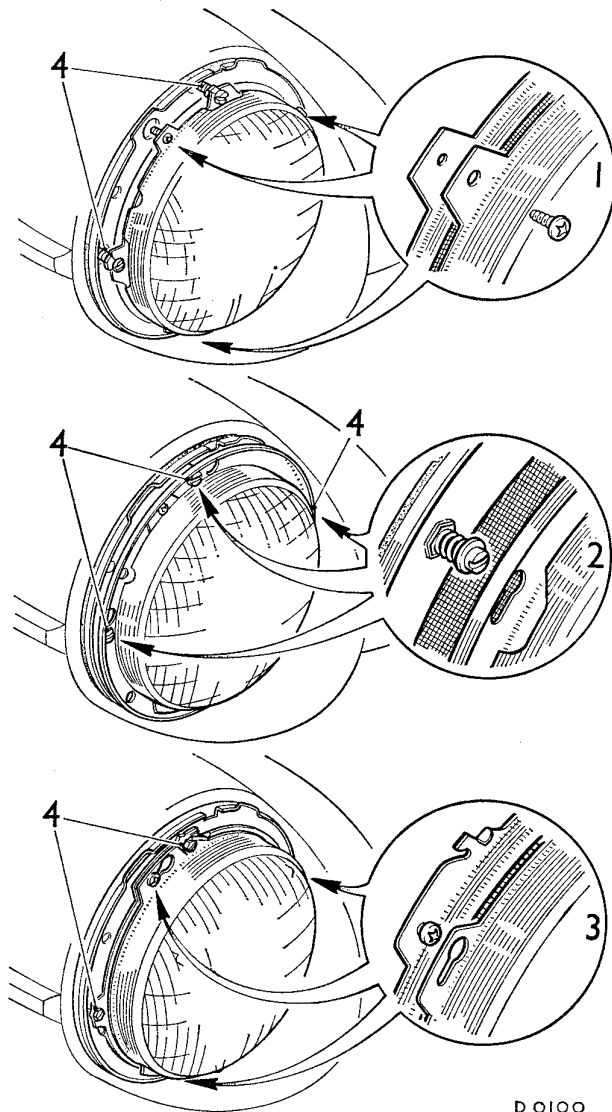

Fig. N.15
Variations within the two basic types cater for the local lighting regulations existing in the country for which the car was produced. The method of retaining and adjusting the light unit together with the type of lens and bulb used are subject to territorial variation. Fig. N.15 shows the alternative methods of retaining and adjusting the light unit and Fig. N.16 the different types of bulb fittings used.
##### Removable-type retaining screw (1) Fig. N.15
- (1) Unscrew the outer rim retaining screw from the bottom of the rim, and withdraw the rim.
- (2) Remove the rubber dust excluder (if fitted).
- (3) Remove the three screws securing the light unit retaining plate and withdraw the light unit from the lamp body.
##### Combined adjusting/retaining screw (2) Fig. N.15
- (4) Carry out the operations detailed in (1) and (2).
- (5) Press the light unit inwards against the tension of the springs and turn it in an anti-clockwise direction until the heads of the screws can pass through the enlarged ends of the slots in the retaining plate, then withdraw the light unit.
##### Captive-type retaining screw (3) Fig. N.15
- (6) Carry out the operations detailed in (1) and (2).
- (7) Slacken the three retaining screws and turn the light unit retaining plate in an anti-clockwise direction until the heads of the screws can pass through the enlarged ends of the slots in the retaining plate, then withdraw the retaining plate and light unit.